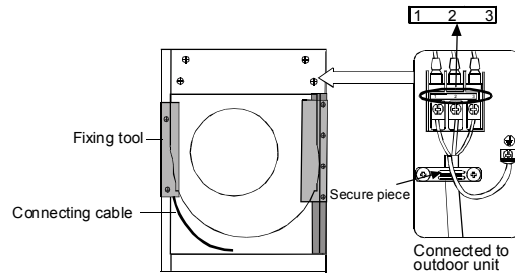

Fig 19
4. Secure the connecting cable using clamp. (Fig 19)